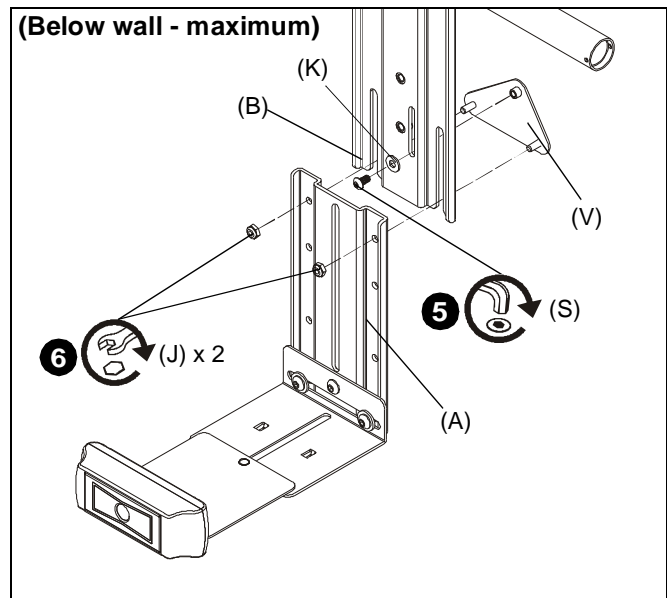

Figure 7
5. (For **maximum extension**) Use #10-32 x 3/8" button head cap screw (S) and small washer (K) to secure adapter plate (V) to main bracket (B). (See Figure 7)
6. (For **maximum extension**) Use two #10-24 lock nuts (J) to secure upright bracket (A) to main bracket (B) and adapter plate (V). (See Figure 7)